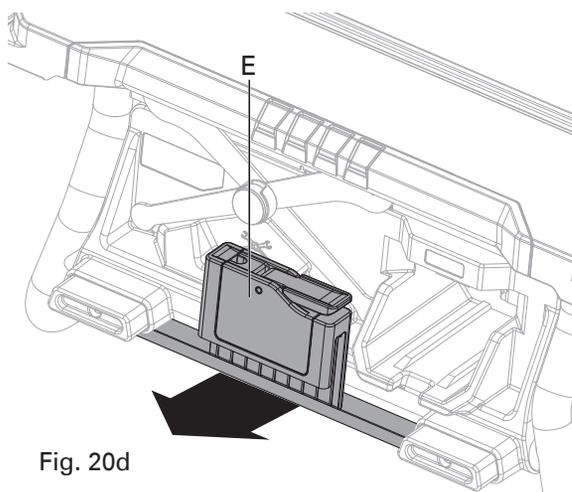

Fig. 20d
- Pull the sub fence assembly (E) out from the sub fence assembly storage. (Fig. 20d)